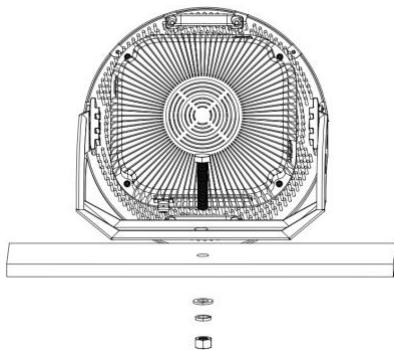
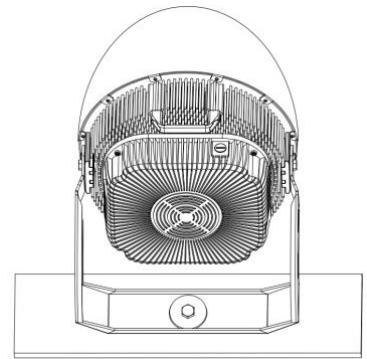

FIG.16
FIG.18
- 2) Put bolts into the round plate, through the drilled holes. Put flat washer and spring washer on the bottom of the bolt, lock with nuts (See FIG.16 to FIG.18). Please use M20 bolts 60~120 mm long (not provided).